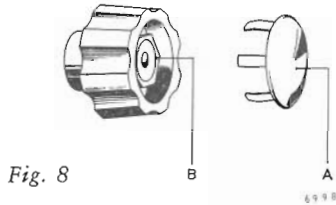

Fig. 8
- * Remove the cap "A" (Fig. 8).